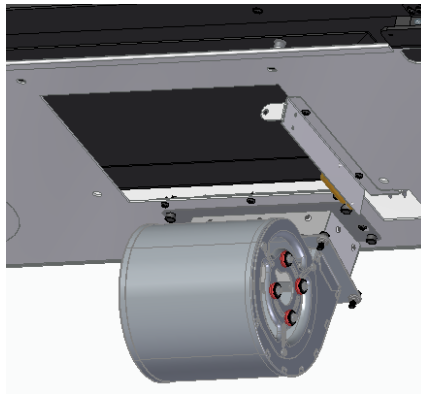

Figure 49 – Fixing the ventilation kit in the E909 and E809 units
b. Fixing the ventilation kit underneath the equipment, on the bottom, as shown in the picture, see Figure 49.